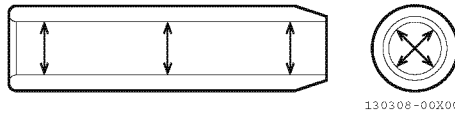

Fig.14-24
2. Use a telescoping gauge and micrometer to measure the inside diameter at each end of the valve guide. Measure in three places and 90° apart (Fig.14-24). For standard values, see 0000-07-01-01 "Intake/exhaust valves and valve guides". If the value exceeds the standard, replace the valve guide.